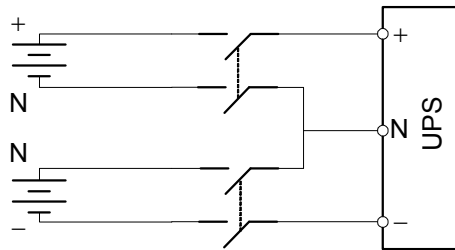

Figure 1 Connections between the battery, breaker and UPS (four cables connected to battery)
1. In the case the battery is configured for independent wiring for positive group and negative group respectively (that is, lead four cables from battery terminals), for the UPS, due to the limitation of the rated current, it is recommended to use a 4P DC moulded-case circuit breaker (MCCB) (DC rated voltage of the breaker meeting 1-pole 250Vdc, 2-pole 500Vdc, 3-pole 750Vdc, rated breaking capacity limit being 35kA) or two 2P DC MCCBs (DC rated voltage of single breaker meeting 1-pole 250Vdc, 2-pole 500Vdc, rated breaking capacity limit being 35kA). Connections between the battery, breaker and UPS are shown in Figure 1.